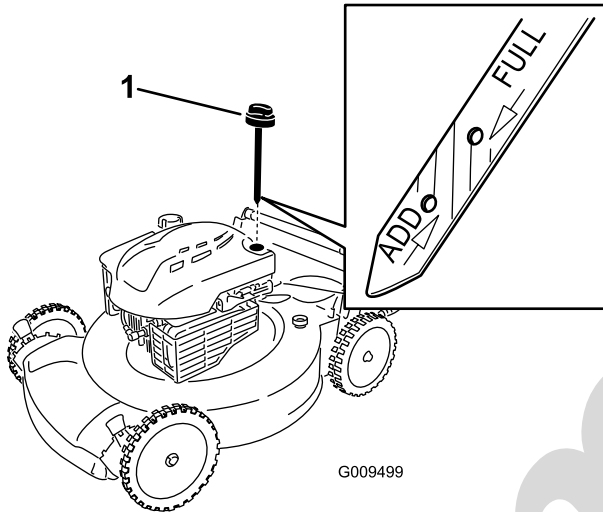

Figure 8
2. Remove the dipstick (Figure 8).
5. Remove the dipstick and read the oil level on the dipstick; refer to Figure 8.